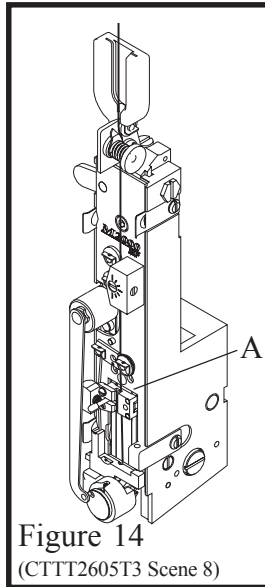

Figure 14
**MAKE ALL ADJUSTMENTS WITH THE POWER OFF AND THE STITCHING HEAD IN NEUTRAL POSITION! (Fig. 14)**